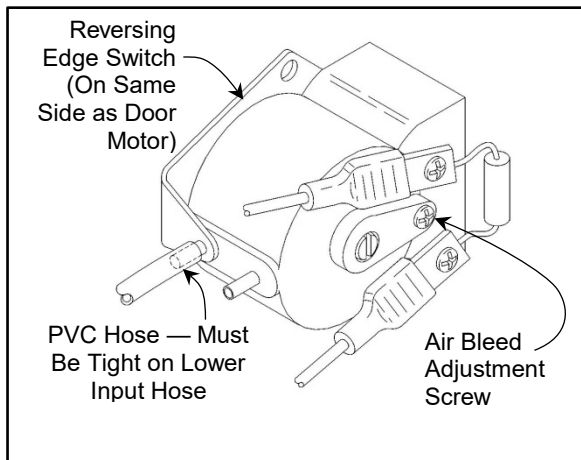

Figure 30
2. Make sure the clear PVC hose is in tight contact with the air input post so that air leakage cannot occur and that vibration will not cause the hose to fall off. Also make sure the PVC hose is not kinked. (See Figure 30)